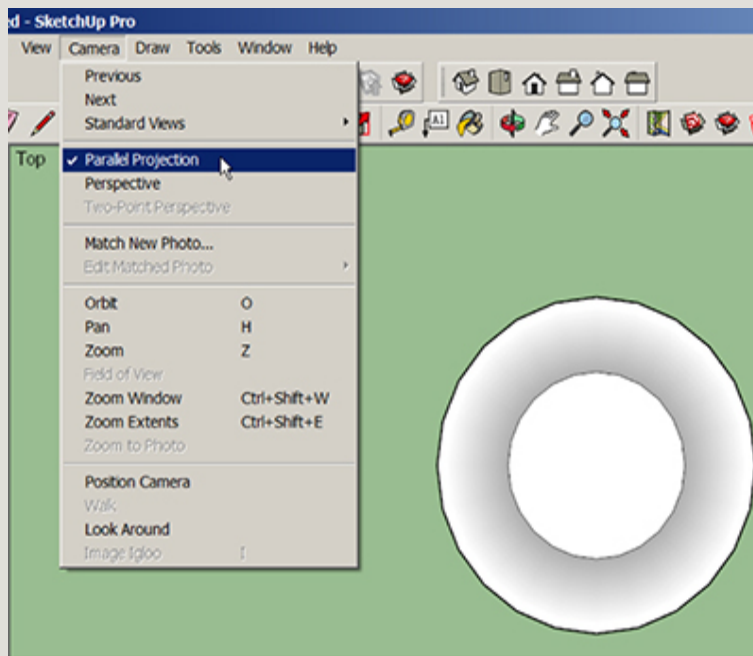

Figure 3-81 Turn on Parallel Projection mode to display the model in 2D.
- a. Turn on Parallel Projection mode (Figure 3-81). When you click on the Views